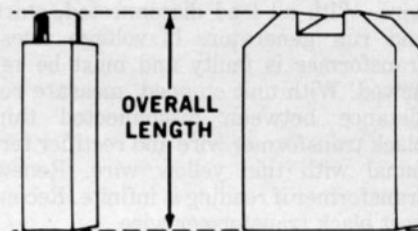

Fig. HL3-2—Measure length of brushes as shown.
To remove brushes, unscrew clamp screws and slide brush cover (20—Fig. HL3-1) off brush head (18). Unscrew set screws and remove brush caps (24) and brushes (25). Be sure to mark brushes so that they can be returned to their original positions. Check length of each brush as shown in Fig. HL3-2. Renew brush if length is 5/8-inch or shorter. Be sure to include length of projections for brush springs when measuring brush length.